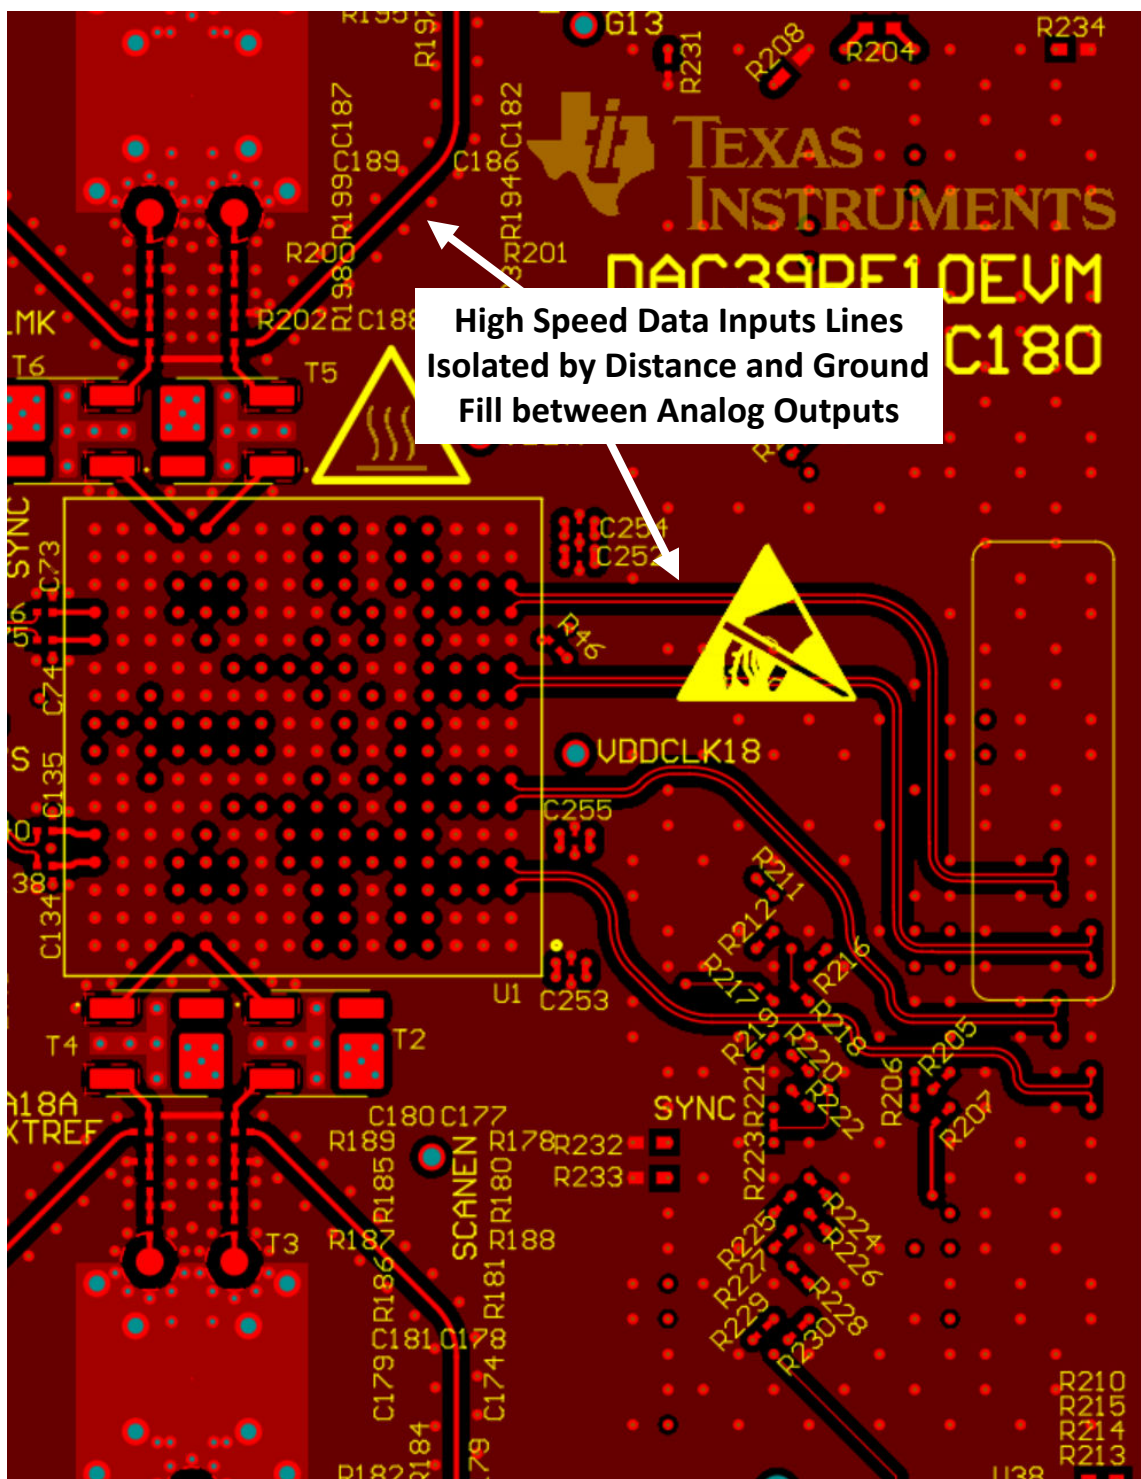

図 8-28. Serdes Top Layer Routing with Ground Fill Isolation
9. Pay particular attention to potential coupling between JESD204x data input routing and the analog output routing. Switching noise from the JESD204x inputs can couple into the analog output traces and show up as wideband noise due to the high bandwidth of the DAC. Route the Serdes JESD204x data inputs on a separate layer, if possible, from the DAC output traces to avoid noise coupling, see 図 8-28 and 図 8-29 as examples.